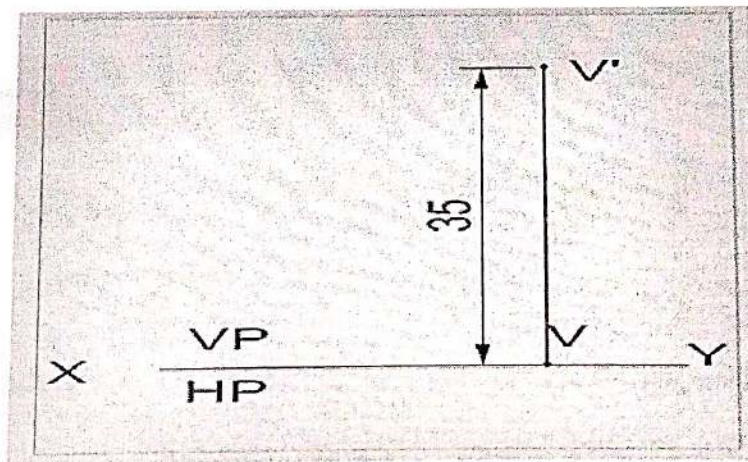

Fig 5.10
- iii. Draw the reference line XY. Mark the top view at any point on XY and side view at a distance of 35 mm from XY as shown in fig 5.10.